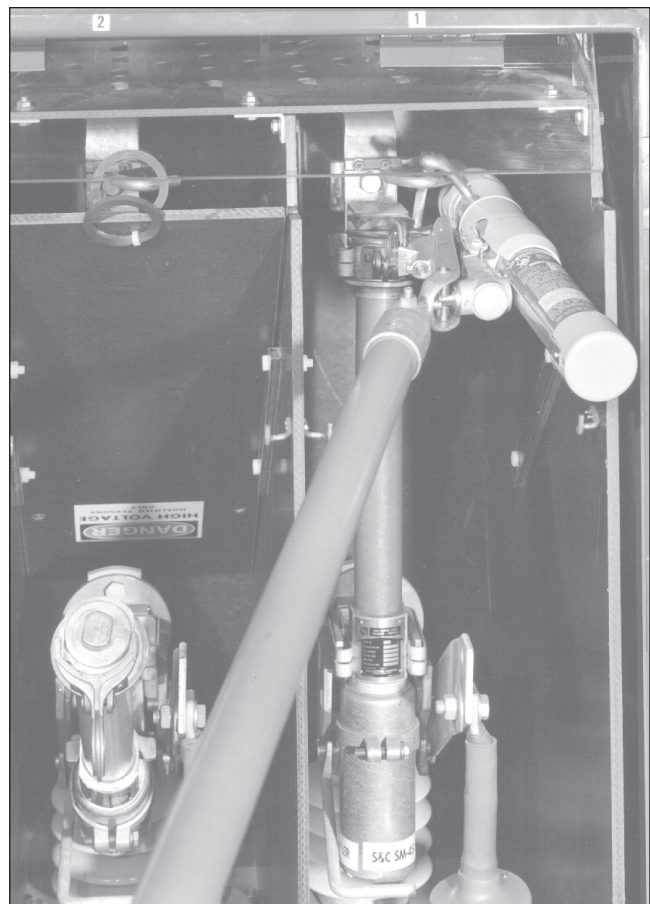

Figure 10. Loadbuster connected to power fuse.
**Step 2** Swing Loadbuster toward the fuse unit or holder and pass the Loadbuster pull-ring hook through the pull-ring of the fuse unit or holder. The pull-ring latch will deflect and upon complete entry of the pull-ring hook, will spring back, locking Loadbuster to the pull-ring. Loadbuster is now connected across the upper contact of the power fuse. See Figure 10.